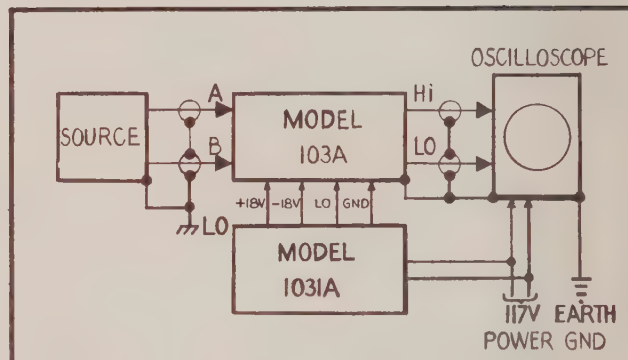

FIGURE 14. Use as an Oscilloscope Preamplifier.
a. Oscilloscope Preamplifier. When used as a preamplifier for a dual input oscilloscope the Model 103A can be connected as shown in Figure 14. The oscilloscope chassis should be connected to earth ground directly. The Model 103A outputs can be connect differentially or single-ended if necessary. When connecting the Model 103A output to a single input oscilloscope, the HIGH OUT receptacle should be used. Since the Model 103A low is isolated by 10 ohms above chassis ground when powered by the Model 1031A, no other connection is required. If another power supply is used such as batteries, it is necessary to connect a 10 ohm resistor between low and chassis.